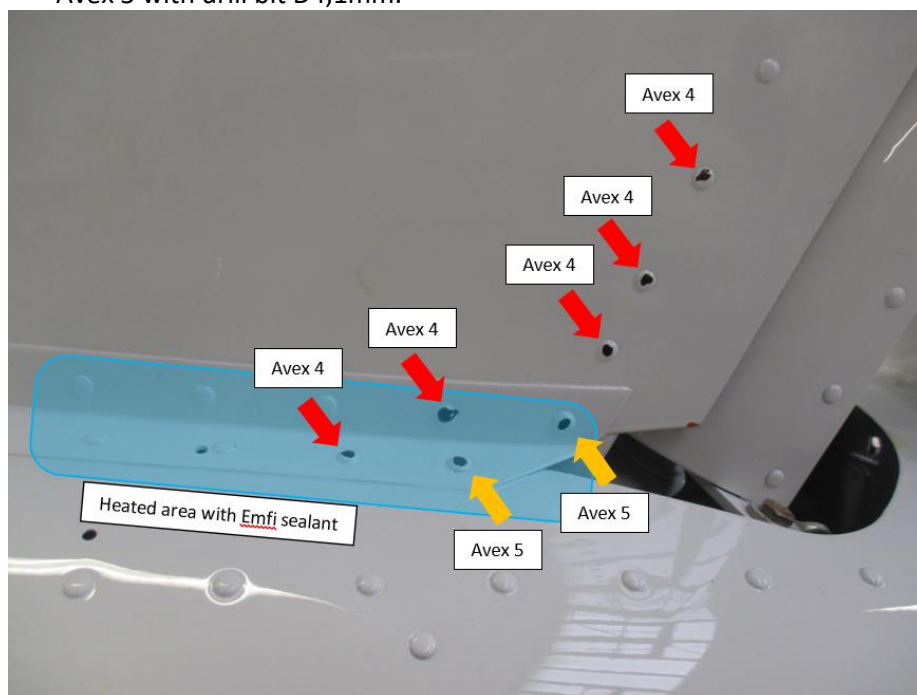

Fig. 1: Rivets marked to be drilled out
- 3) Drill out the rivets both sides (SC-MM-1-0-00, Chapter 15.2). All drilled rivets are marked on the picture (Fig. 1). Rivets marked as Avex 4 with drill bit D3,2mm and Avex 5 with drill bit D4,1mm.
- 9) Drill the holes, D3,2mm for Avex 4 and D4,1mm for Avex 5, see Fig. 1.
- 13) Gradually rivet (SC-MM-1-0-00, Chap 15.3) the rivets Avex 4-10 pcs. and Avex 5-4 pcs. See Fig. 1.